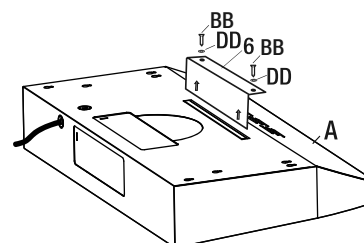

Fig.12
- If you are venting indoors, unscrew the 2 screws holding cover (6) in place and remove the cover as per Fig. 12. DO NOT REMOVE ANY OTHER VENTING HOLE COVER.